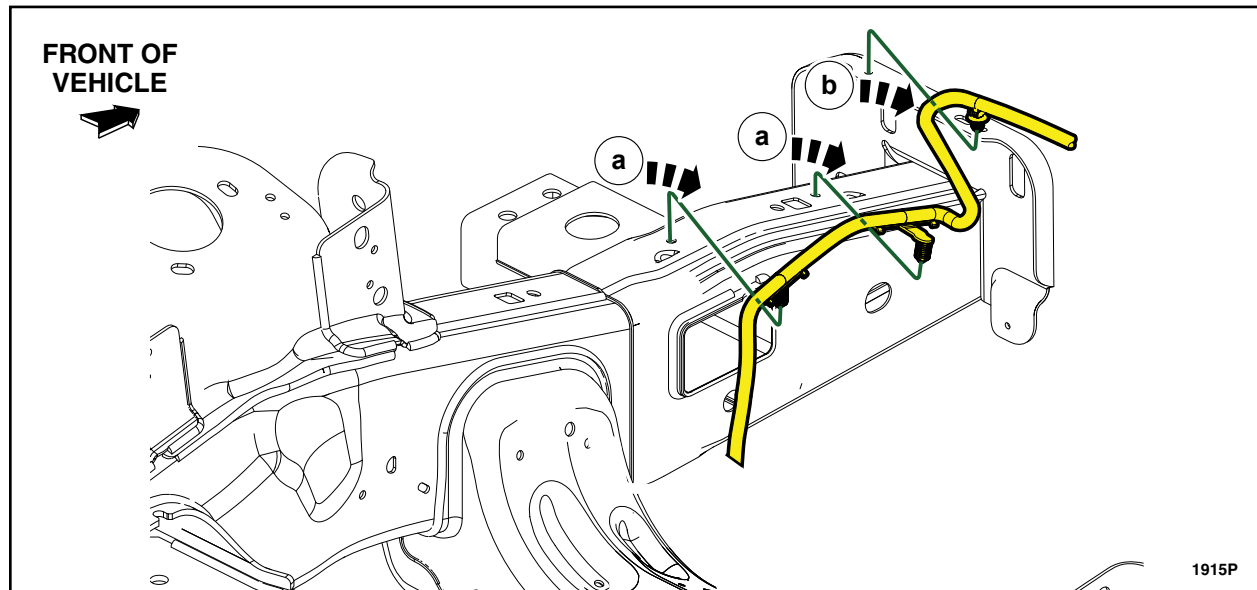

FIGURE 11
12. Detach the two (2) block heater cable retaining clips (a) from the left front frame rail and the one (1) cable retaining clip (b) from the bumper support bracket. See Figure 11.
20. Attach the two (2) block heater cable retaining clips (a) to the left front frame rail and one (1) cable retaining clip (b) to the bumper support bracket. See Figure 11.